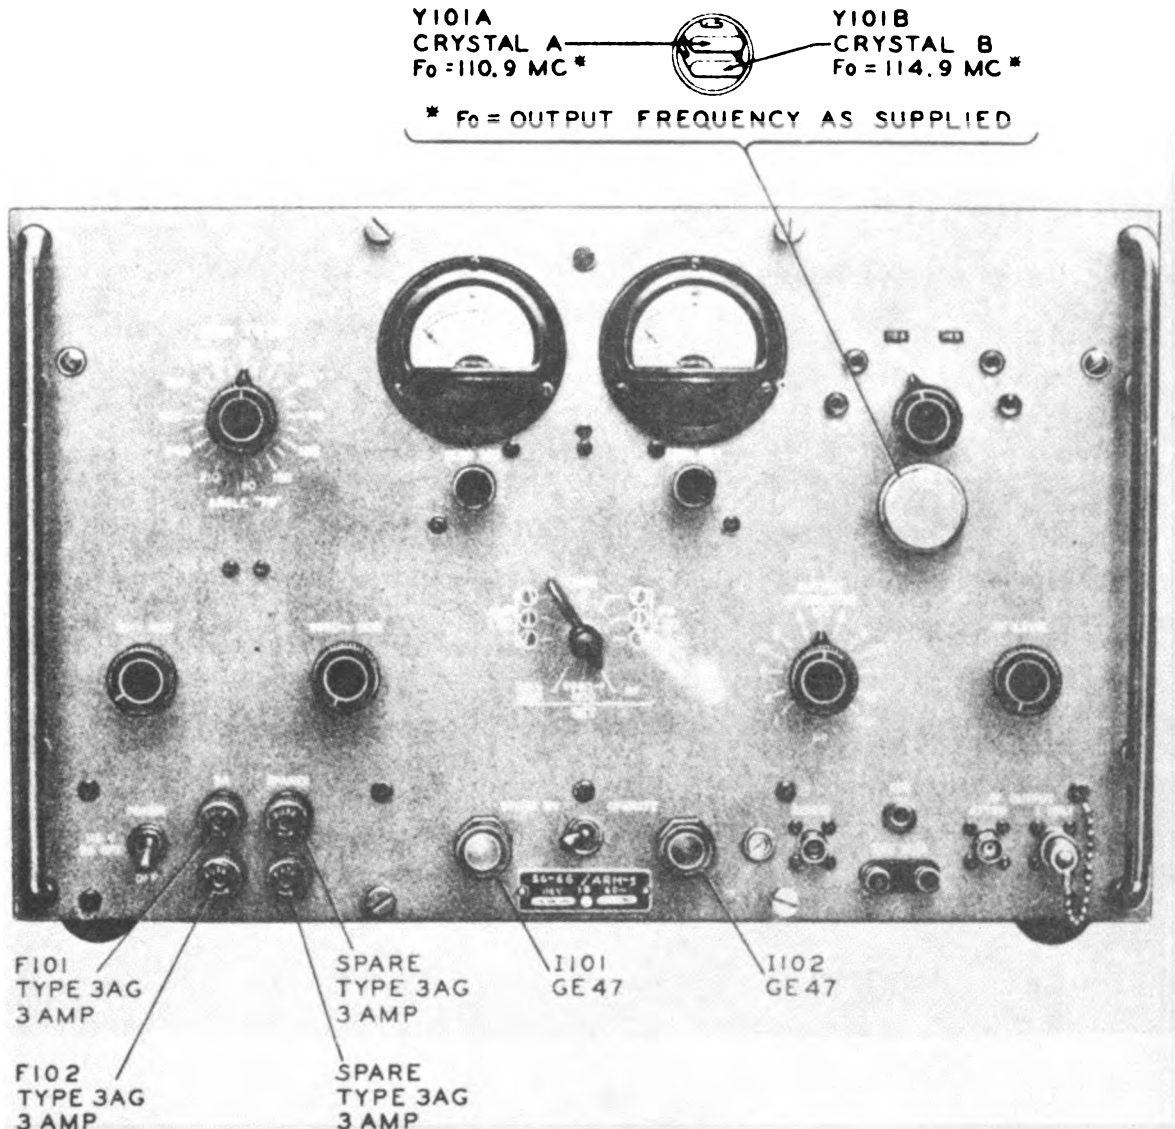

Figure 4-2. Signal Generator SG-66/ARM-5, Location of Crystals, Fuses, and Panel Lamps
4-7. REPLACING CRYSTALS. Signal Generator SG-66/ARM-5 contains two type CR-23/U crystals installed behind a screw-on protective cap. (See figure 4-2.) To replace a crystal, remove the crystal cover cap, grasp the crystal case between thumb and forefinger, and work the crystal out of its socket.
**4-8. REPLACING FUSES.** Signal Generator SG-66/ARM-5 contains two active and two spare 3-ampere, type 3AG fuses installed in extractor-type, finger-cap fuse holders located in the lower left portion of the front panel. (See figure 4-2.) To replace a fuse, turn the fuse-holder cap counterclockwise, remove the cap, and pull out the defective fuse, install a new fuse of the proper rating, and replace the cap, securing it with a clockwise turn.
**4-9. REPLACING PANEL LAMPS.** Radio Test Set AN/ARM-5 contains two GE #47 bayonet-type panel lamps located in the white-lens and red-lens lamp assemblies on either side of the STAND BY—OPERATE switch. (See figure 4-2.) To replace either one of these lamps, unscrew the lens-cap and remove the defective lamp by pressing in and turning counterclockwise. Insert a new lamp and secure by pressing in and turning clockwise. Screw the lens-cap back in place, making sure that the white lens is at the left of the STAND BY—OPERATE switch, while the red lens is at the right.